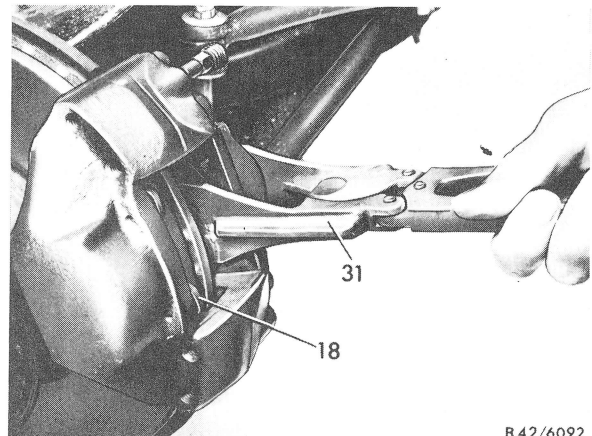

Fig. 10
10 Force piston back with piston resetting pliers (31). Make sure that one brake shoe (18) always remains in caliper, since otherwise the opposite piston will be pushed forward by forcing back the other piston (Fig. 10).